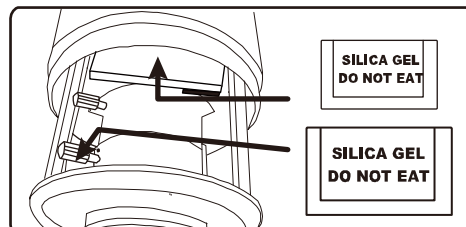

Figure 2
Step3: Adjust the viewing angle of the camera, as indicated in *Figure 2*.
Step3: (Optional) Open the new bag(s) of desiccants supplied in the package and place them in the camera within 2 minutes (as shown in **Figure 2**), or the desiccants might absorb too much moisture in the air.